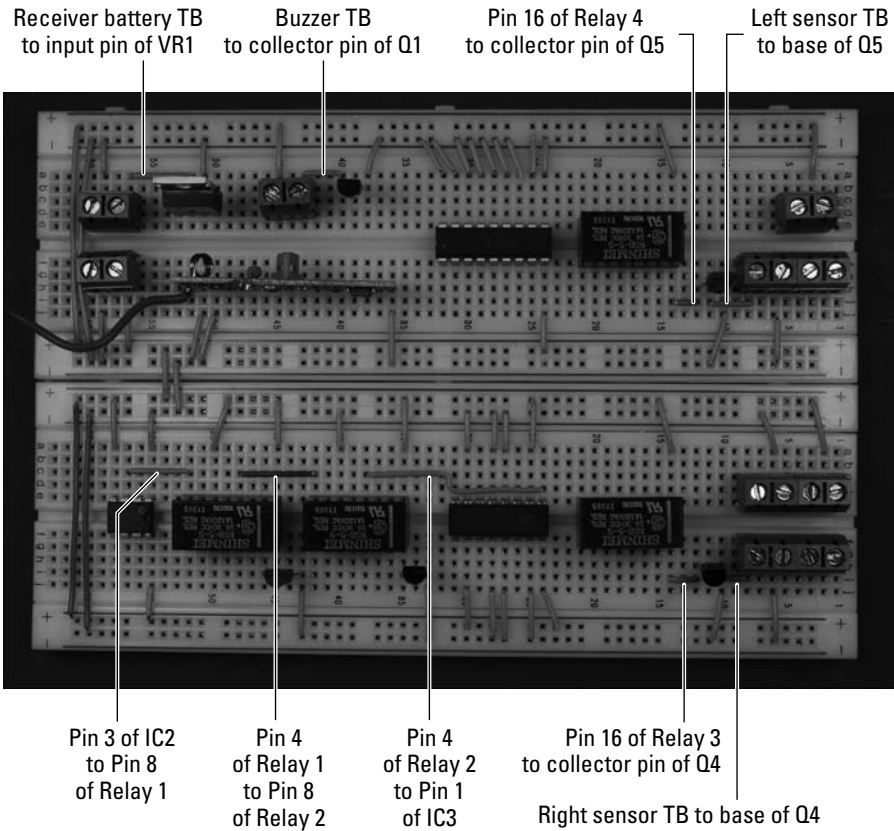

Figure 13-23: Hook up the IC, terminal blocks, relays, and discrete components.
- 6. Insert wires to connect the ICs, terminal blocks, relays, and discrete components, as shown in Figures 13-23, 13-24, and 13-25.**